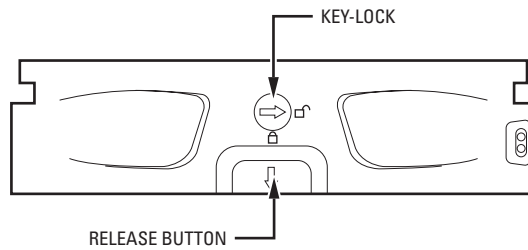

Figure 10. Drive Tray Key-Lock in Unlocked Position
- a. On the DX8100HDDI front panel, place the drive tray 1 release button in the unlocked position (refer to Figure 10).
- d. Gently shut the drive tray door, and then return the release button to the locked position (refer to Figure 10).